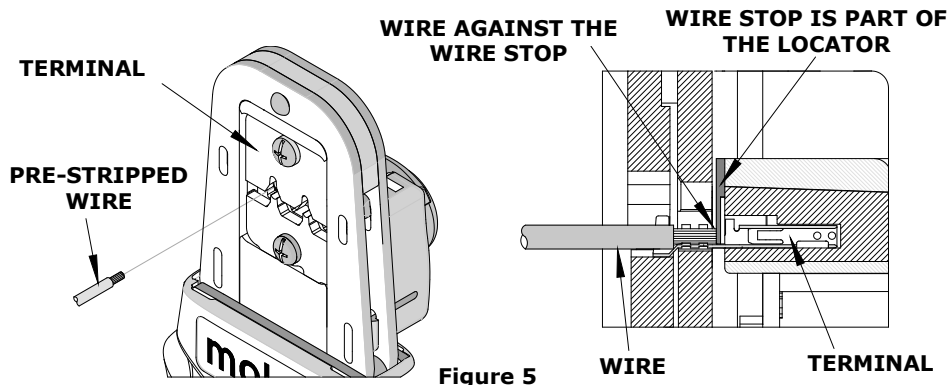

Figure 5
6. Insert the properly stripped wire through the terminal and against the locator. See Figure 5.